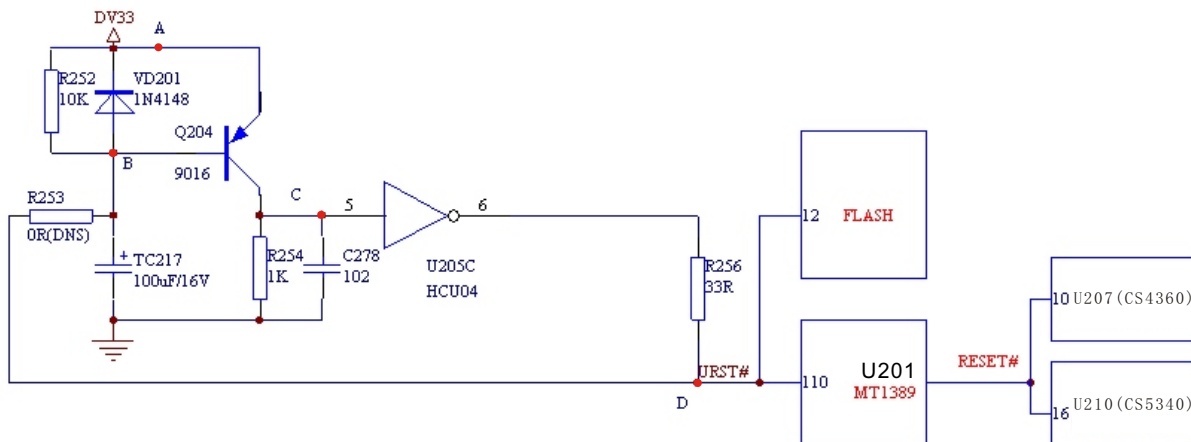

Figure 3.2.4.1 Reset circuit schematic diagram
1. The circuit schematic diagram is shown as the following figure 3.2.4.1: